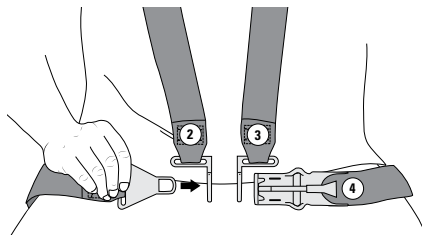

Fig. 17
2. Bring right hand shoulder web over shoulder, insert slot of right shoulder link onto the lap belt link. (Fig.17)
3. Bring left hand shoulder web over shoulder, insert slot of left shoulder link onto the lap belt link next to right shoulder link. (Fig. 17)
4. Insert lap belt link into lever located on the opposite lap belt. (Fig. 17)